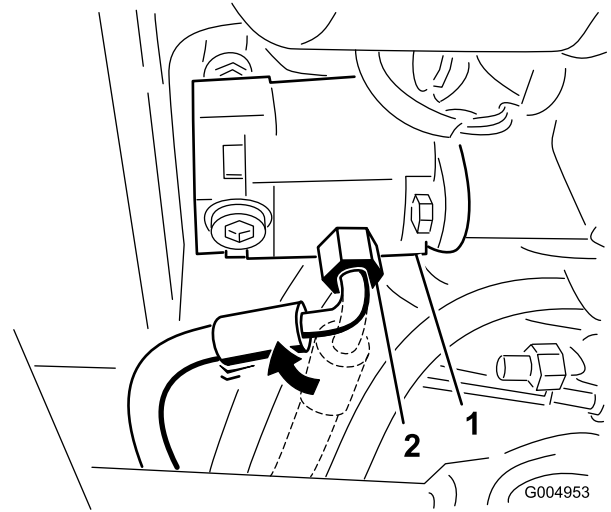

Figure 42
3. Loosen the pressure hose fitting at the pump and rotate the fitting 45 degrees toward the front of the machine (Figure 42).
Note: Figure 42 is shown as viewed from under the traction unit.